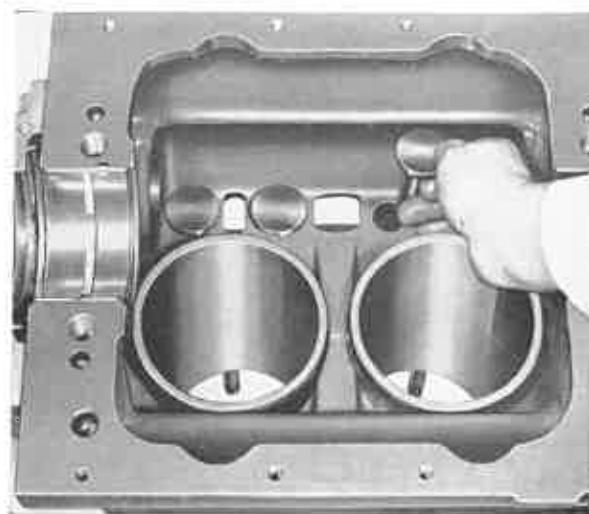

Fig. N.3. Replacing a Tappet.
1. See that tappets are in position (See Fig. N.3).